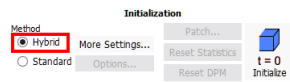

Figure 52: *Hybrid* initialization of the flow field.
- In the *Initialization* group, verify that the *Method* selected is *Hybrid*, like indicated in figure 52.